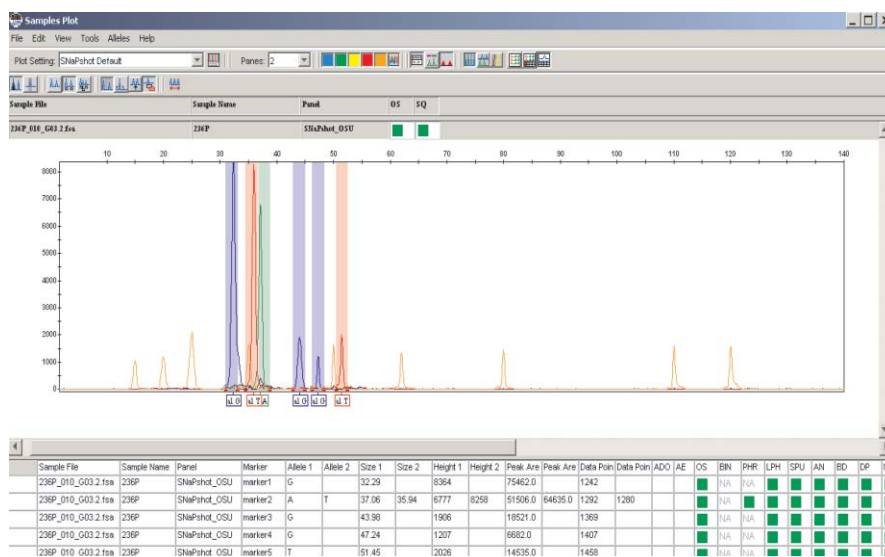

Figure 10 Multiplexed SNaPshot Kit reaction using POP-7 polymer and a 36-cm array on the 3730 DNA analyzer
8. Run the sample plates and analyze the results with GeneMapper Software v3.7 or higher for simultaneous sizing and genotyping (see Figure 10).
Figure 10 shows a multiplexed SNaPshot Kit reaction using POP-7 polymer and a 36-cm capillary array on the Applied Biosystems 3730 DNA analyzer. The data was analyzed by GeneMapper Software v3.7. The color bars represent bins used for allele calling. The GS120LIZ size standard was used for sizing. The analyzed data can then be exported in a tab-delimited Microsoft Excel® Software spreadsheet.
The Autoanalysis Option in the Data Collection software run on the 3130/3130xl Genetic Analyzers and the 3730/3730xl DNA Analyzers automates all steps from addition of samples to running the analysis; the user only reviews the analyzed results. GeneMapper software contains a SNaPshot Kit specific analysis method designed to recognize and analyze SNaPshot Kit data. Once the mobility of the extended products has been determined, bins representing the actual allele size range and dye color for a given SNP can be assigned. The software uses bins to make the actual allele call (see Figure 10 on page 11). Once these bins have been set up, the software automatically assigns genotypes to samples at the end of the analysis. These bins are saved and reapplied automatically to all subsequent projects that use the same set of SNPs enabling a streamlined workflow from sample loading, data collection, data analysis and genotype results generation. Please refer to the *GeneMapper[®] Software v3.7 User Guide* (PN 4359413) for more detailed information on data analysis.